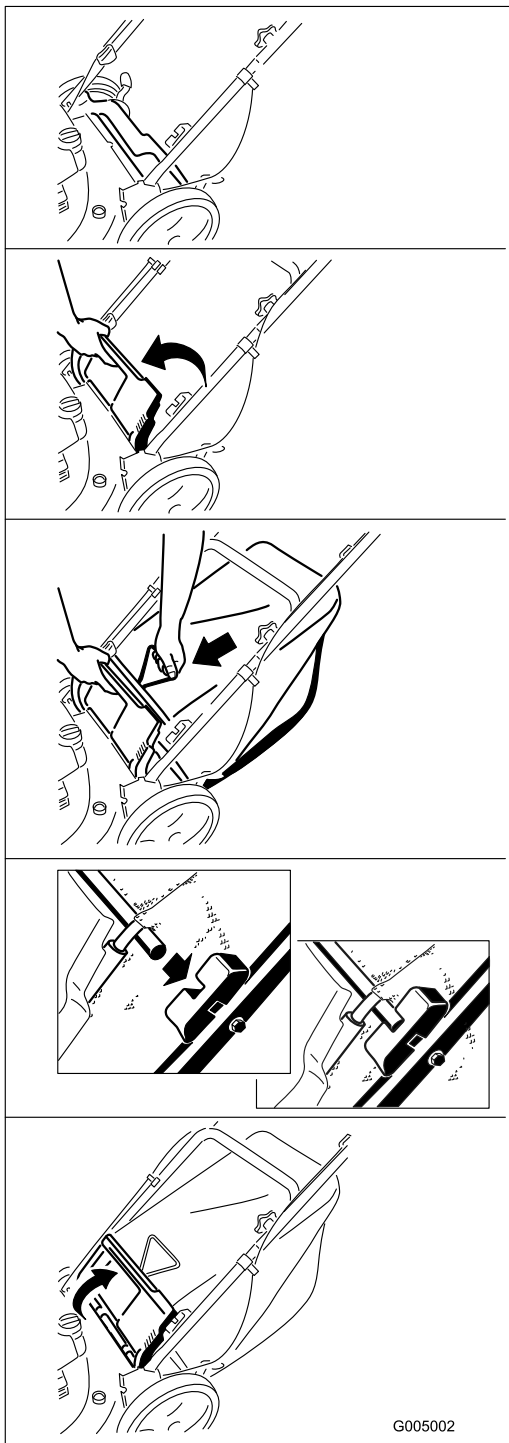

Figure 19
2. Install the grass bag (Figure 19).